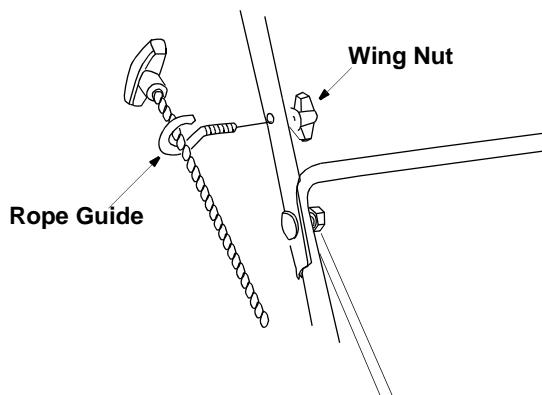

Figure 9
- Slip the rope through the rope guide. See Figure 9. Tighten the wing nut holding the rope guide to the upper handle.